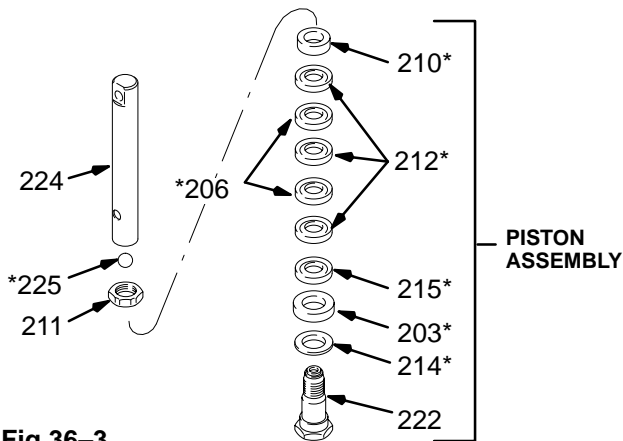

Fig 36-3
7. Clamp the flats of the piston rod in a vise. Loosen the retaining nut (211). Unscrew the piston valve (222) from the rod. Remove all parts from the piston valve (222). See Fig 36-3.
8. Remove and clean the sleeve (218). Use ONLY the special sleeve removal tool, P/N 222-586.
1. Check the outside of the piston rod (224) and the inside of the sleeve (218) for scoring or scratches. If these parts are damaged, new packings will not seal properly. Replace these parts if needed.
2. Stack the backup washer (214), seal (203*), female gland (215*), alternate packings (212*,206*), and then male gland (210*) onto the piston valve (222). See Fig 36-3.